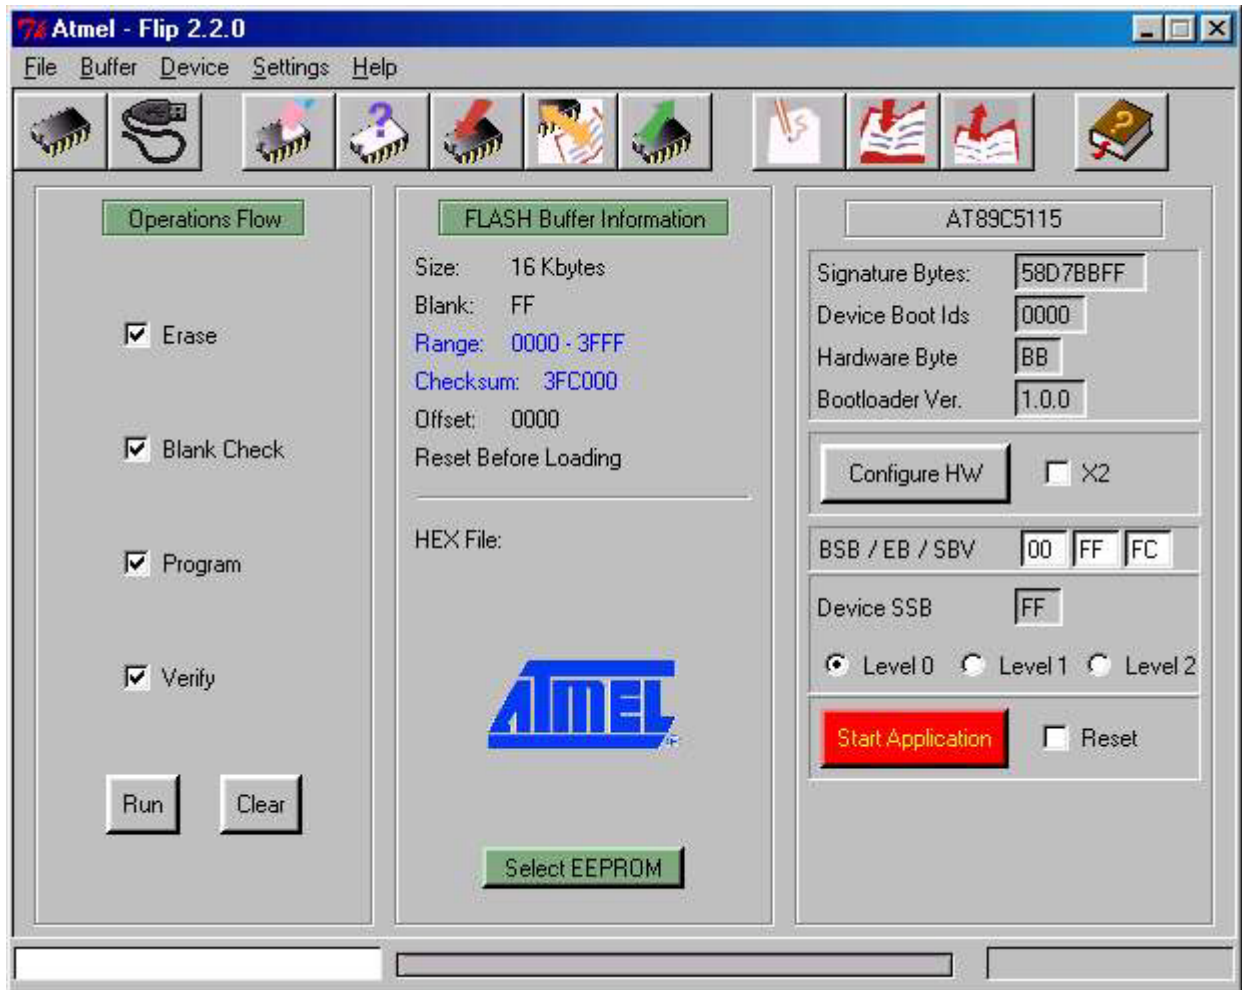

FIGURE 24: FLIP SETTINGS WINDOWS (3 OF 3)
- B9) Make sure that text boxes in the frame "AT89C5115" fill with text, like in figure 24.